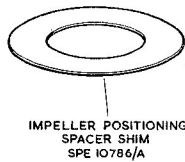

Fig. 17. Impeller spacing shim
49. (1) Place the special spacer shim SPE. 10786/A, (fig. 17) used to set the clearance between the centrifugal impeller and the upper volute casting (50) in the volute assembly (79).